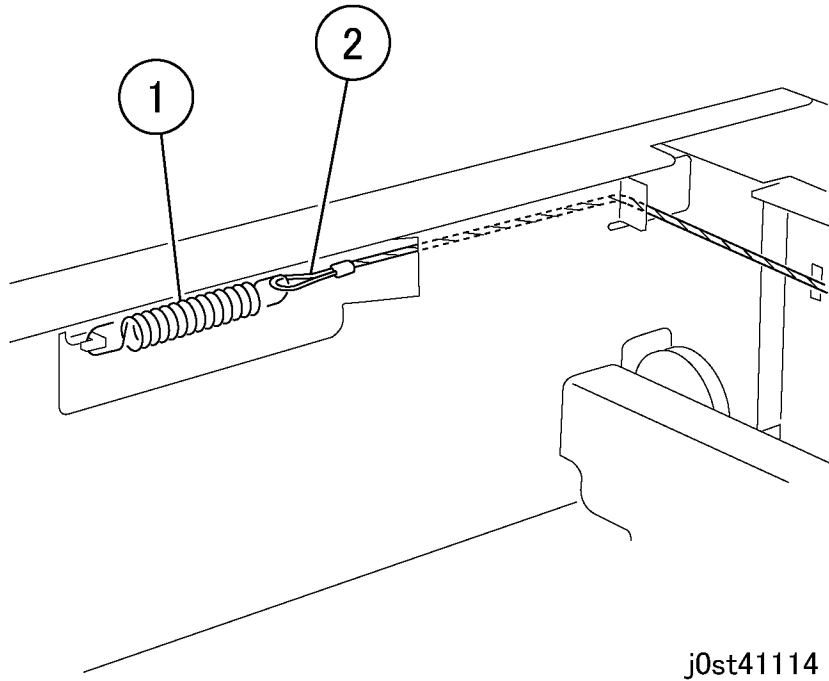

Figure 4 Removing the spring
7. Remove the Carriage Cable (Figure 4).